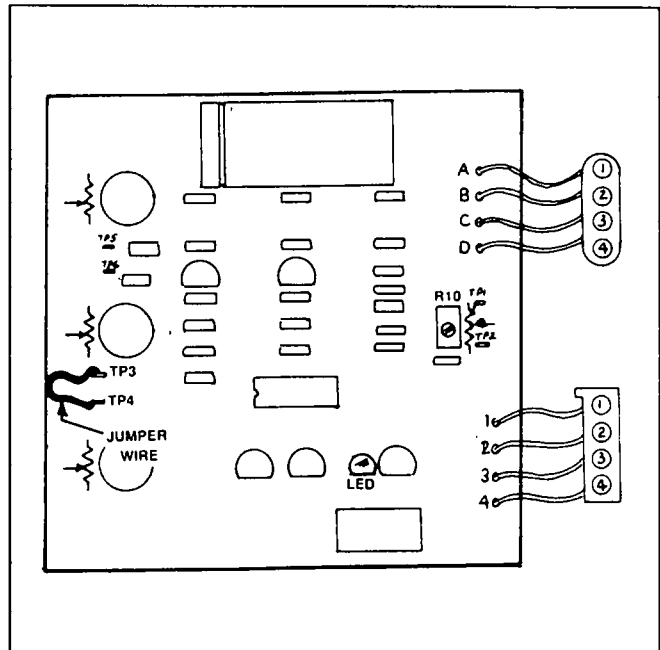

Figure 1. Utility Voltage Sensor Circuit Board
2. On the utility voltage sensor circuit board, locate Test Points "TP3" and "TP4" (Figure 1). Connect a jumper wire across these two test points.